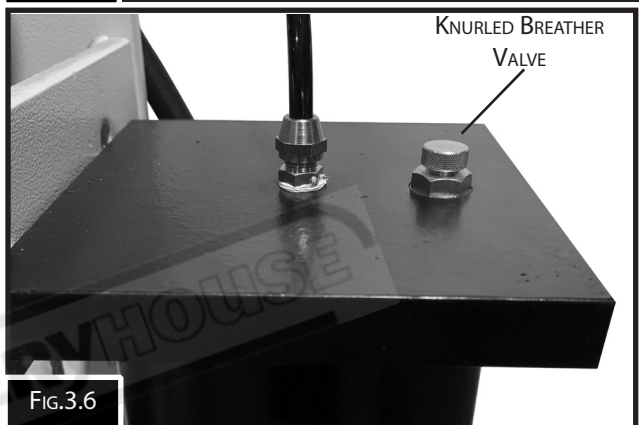

FIG.3.6
1. Open the knurled breather vent on the top of the cylinder (Fig.3.6)